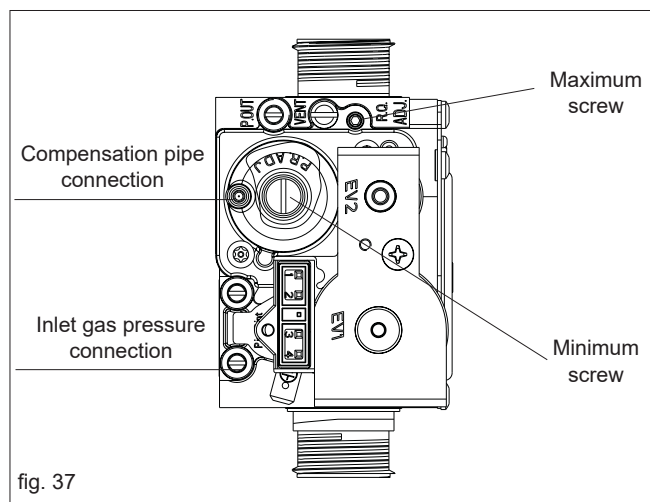

fig. 37
- using a 2.5mm Allen key, very slowly turn the maximum adjustment screw (see fig. 37) – clockwise to decrease, counter clockwise to increase – until the correct value is displayed on the CO₂ analyser (allow time for the analyser to stabilise).
- locate the minimum adjustment screw (fig. 37), using a suitable screwdriver remove the protection plug
- using a 4mm Allen key, very slowly turn the minimum adjustment screw (see fig. 37) - clockwise to increase, counter clockwise to decrease – until the correct value is displayed on the CO₂ analyser (allow time for the analyser to stabilise).